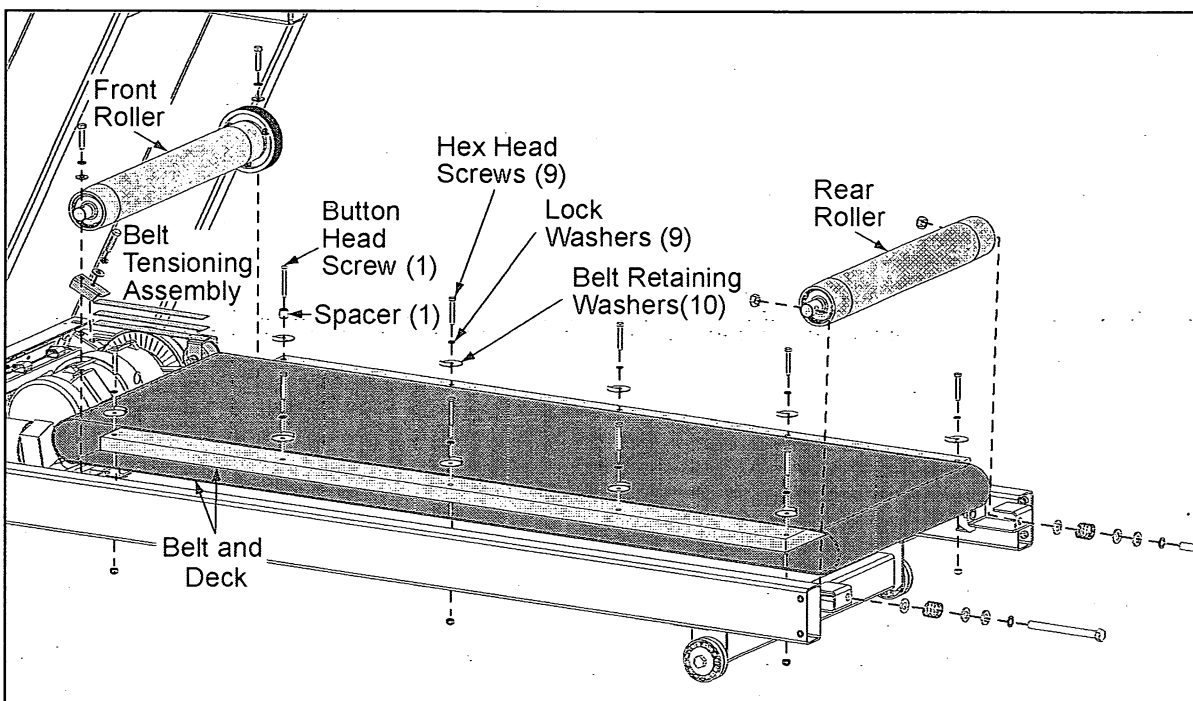

Figure 3
- A. Using a 7/16" wrench, remove the nine screws, nine washers and nine belt retaining washers that hold the deck in place. See Figure 3.
- A. Using a 1/2" wrench, remove the mounting bolt and two washers on top of the drive belt tensioning assembly. See Figure 3.
- A. Place the drive belt tensioning roller in position under the front bracket on the drive belt tensioning assembly. See Figure 3.
- B. Using a 7/16" wrench, attach the nine screws, nine washers and nine belt retaining washers that hold the deck in place. See Figure 3.